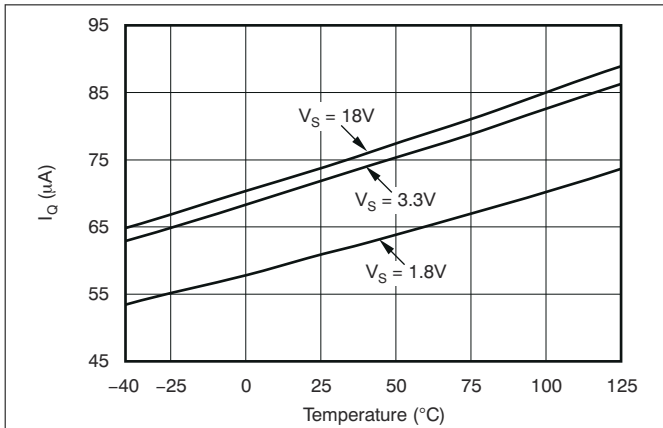

图 6-1. Quiescent Current Over Temperature and Supply
- (1) 100% of production is tested at $T_A = +85^\circ\text{C}$. Specifications over temperature range are ensured by design.
- (2) See Fig 6-1 for typical quiescent current.
- (3) Shaded cells indicate characteristic performance difference.
- (4) The TMP300 is functional over this range and no indication of performance is implied.